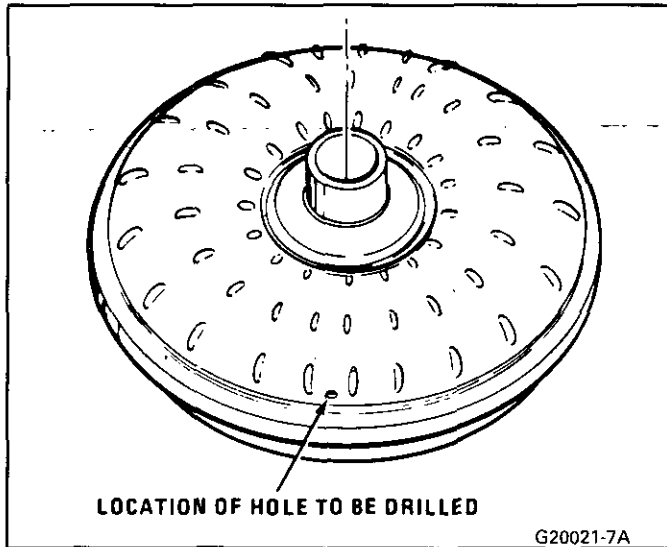

Fig. 7 Location of Hole to be Drilled
Figures 7 thru 10
1. Drill a 11/32" (8.5 mm) hole in the converter between two vane extrusions and adjacent to the converter weld seam edge. Figure 7.